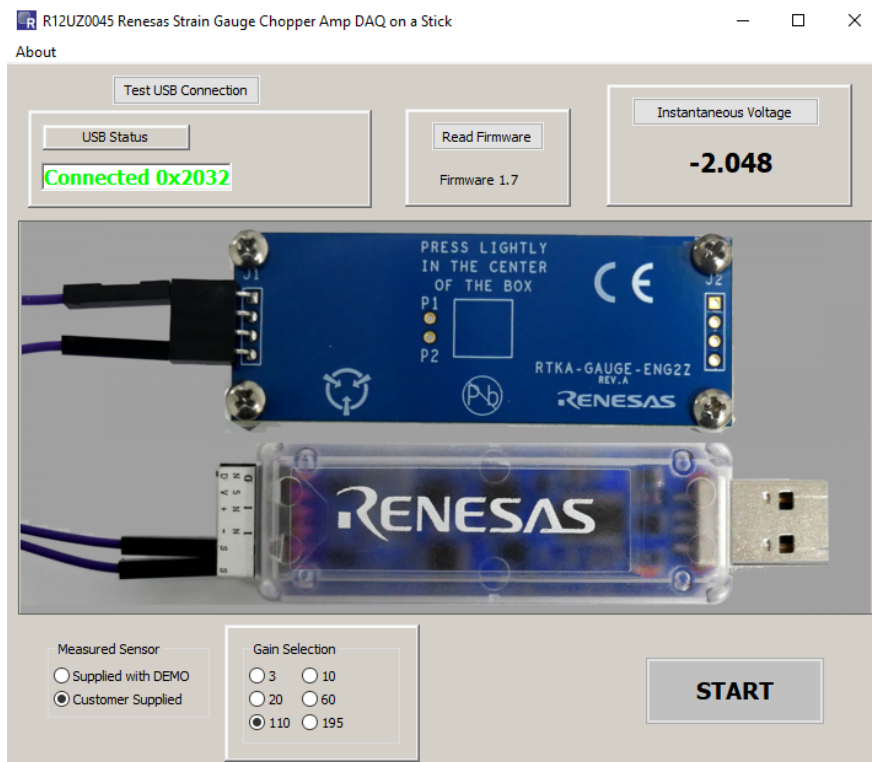

Figure 5. DAQ Startup Screen
2. The green LED on the DAQ on a Stick board turns on. When the software starts, the DAQ Startup screen shown in Figure 5 on page 4 appears. With the board connected, the USB Status indicator displays "Connected 0x2032". The assigned HID code 0x2032 is verification that the software is communicating with the board.
3. From the DAQ Startup Screen (Figure 5), click **Instantaneous Voltage** to get a single voltage reading, select the sensor input to measure, and adjust the amplifier gain.
The RTKA-BDGSTKEV2Z reference design provides the option to measure the strain on a foil gauge (supplied with the evaluation board) or connect your own sensor and monitor the voltage reading in the software. Select **Sensor Supplied with the Demo** or **Customer Supplied** sensor by clicking the appropriate radio button on the DAQ Startup Screen (see Figure 5). The foil gauge is the default value in the software with a gain of 115V/V.
2. Connect the opposite end of the wires to the far edges of the foil gauge board. See Figure 5.
2. Select **Customer Supplied** in the DAQ Startup Screen, as shown in Figure 5. This selection causes the ISL43840 configured as a differential mux to switch the inputs. When the **Customer Supplied** option is selected, you can change the amplifier gain for the best measurement.